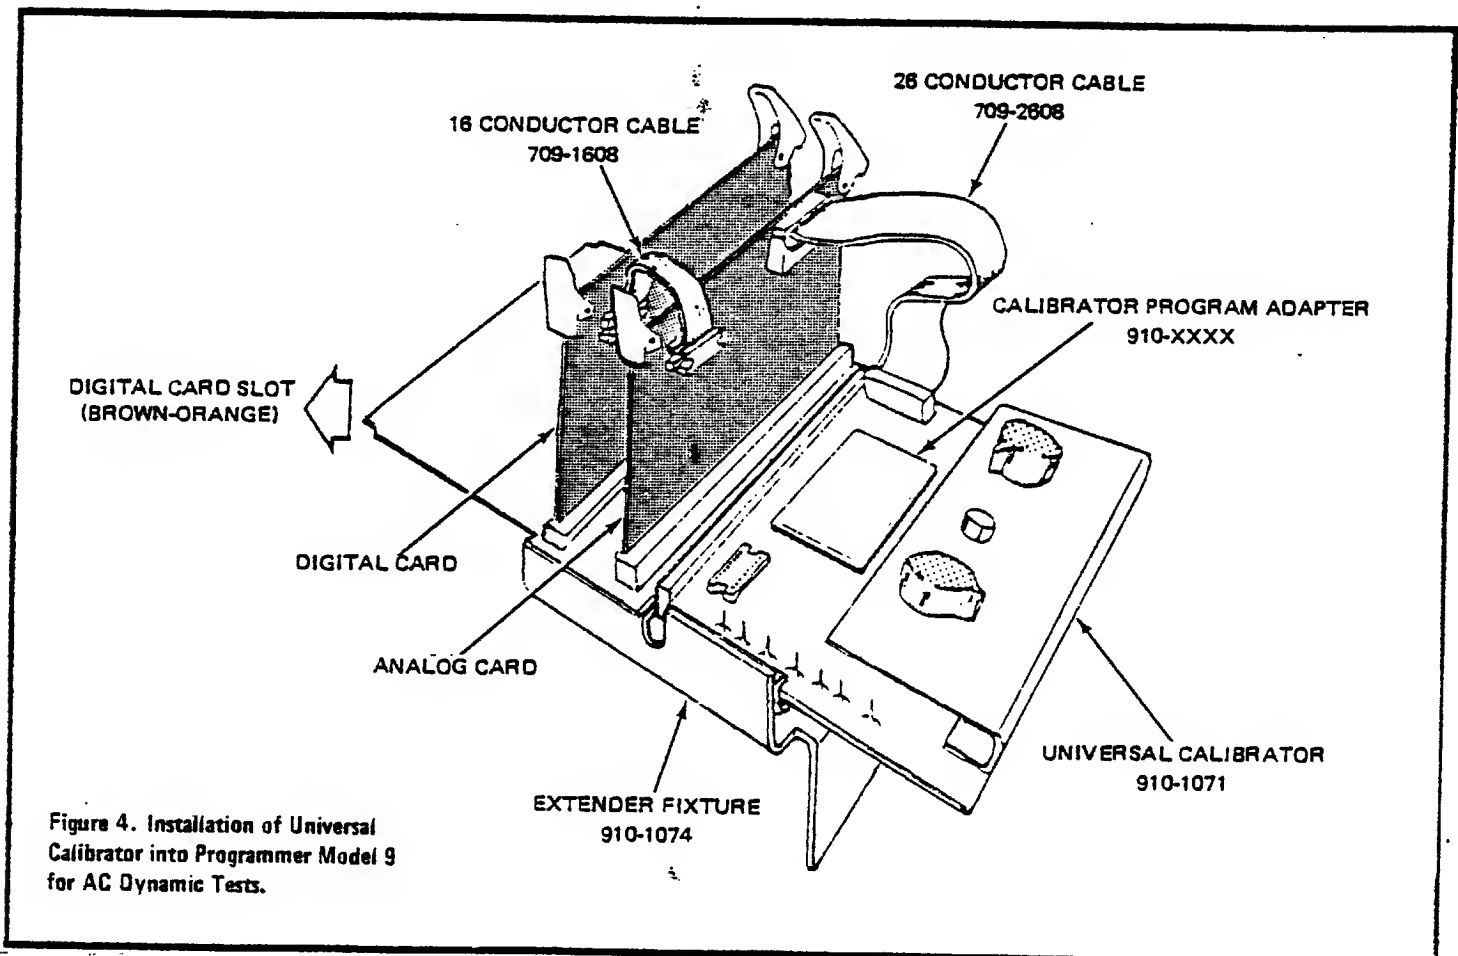

Figure 4. Installation of Universal Calibrator into Programmer Model 9 for AC Dynamic Tests.
B. Programmer 9: Remove the digital card from the extender. Refer to Figure 4.